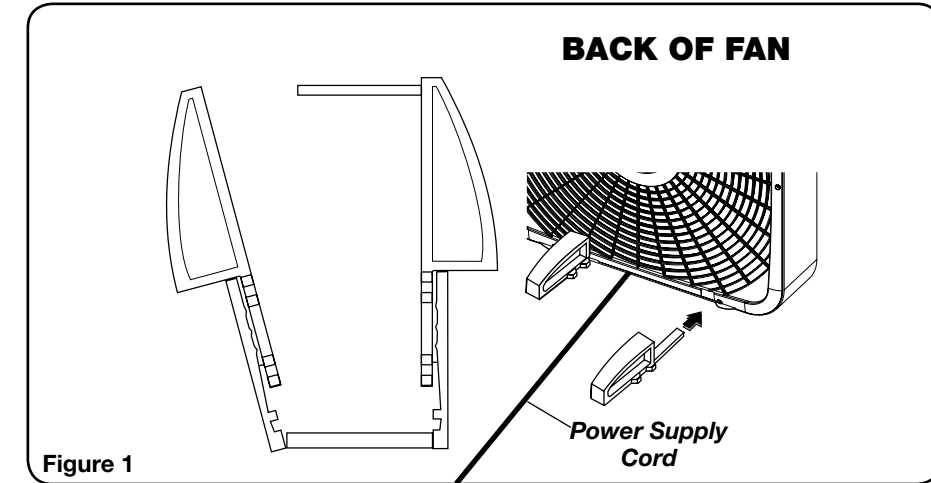

Figure 1
1. Break apart the two plastic Feet, as shown in figure 1.